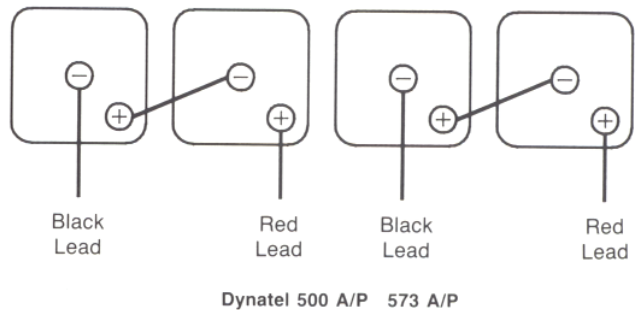

Fig. 29—Transmitter Battery Hookup
- 2) Disconnect each battery, lift from case and replace with a fresh battery. Place new batteries in the same position as the old batteries. Attach the wiring as indicated in Fig. 29.